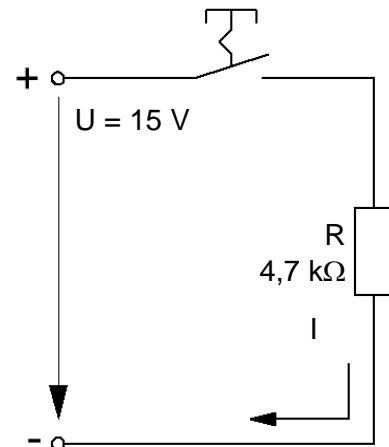

Fig. 2.3.1: Task for Ohm's law
- Calculate the current  $I$ , flowing through the resistor  $R$ , shown in Fig. 2.3.1, when the switch is closed.
- The voltage  $U$  in Fig. 2.3.1 assumes the value 2,18 V. What value of resistor  $R$  must be used for the current to remain unchanged at 3,2 mA? Calculate the value of resistance and check your calculation by measurement.